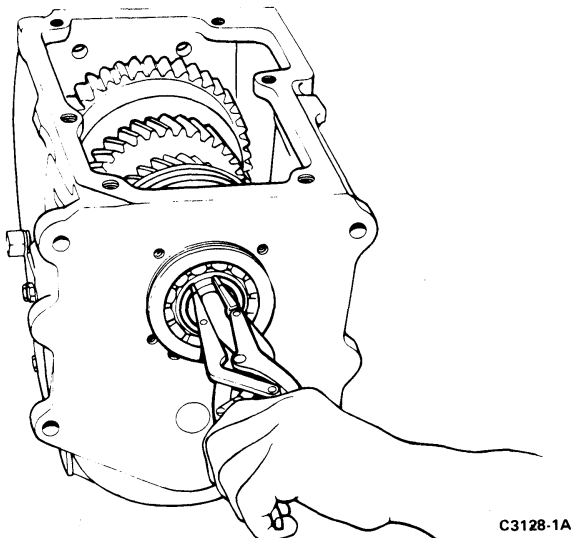

FIG. 7 Removing Input Shaft Bearing Snap Ring
8. Remove the input shaft bearing snap ring retainers from the input shaft and from the bearing, (Fig. 7).